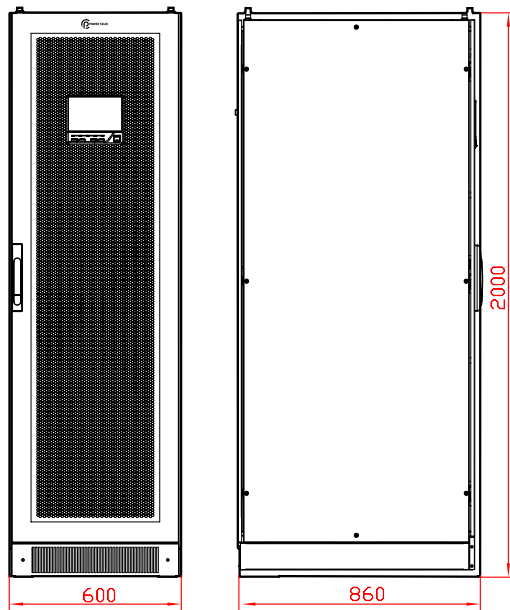
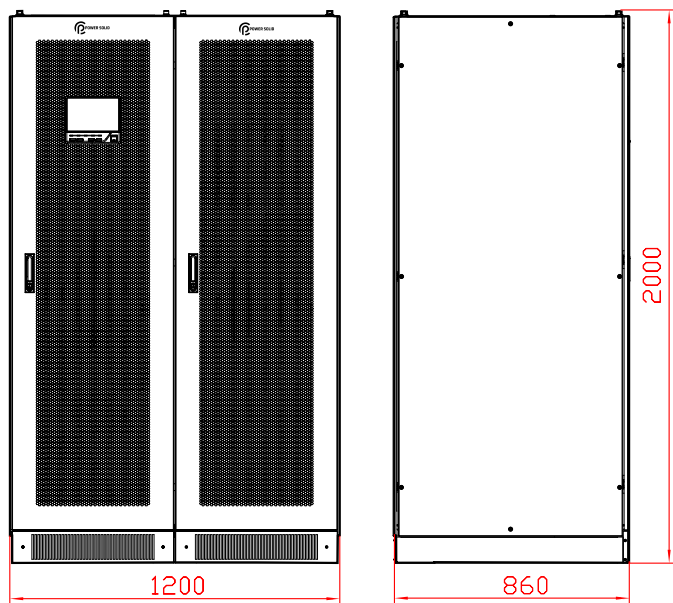

Figure3-8 Size of PS75KVA, PS125KVA, PS200KVA, PS300KVA
Figure3-9 Size of PS400KVA, PS500KVA, PS600KVA
Step 1 Determine and plan the installation position according to the UPS size (as shown in Figure3-8, Figure3-9) and installation clearance requirement (see3.2.3 Installation Space).